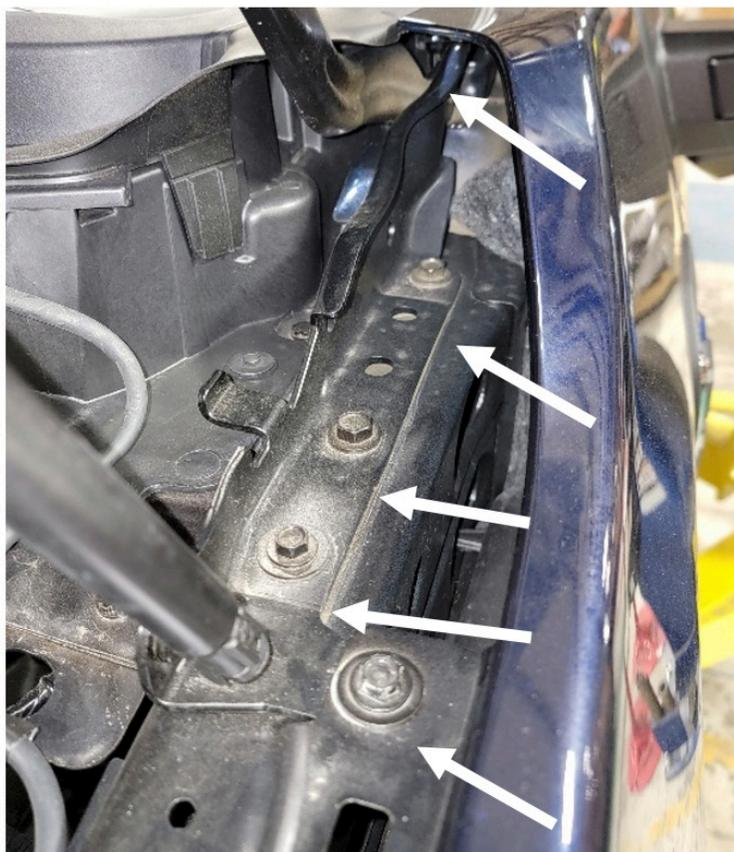

Figure 6.
5. Use a 10mm and 13mm socket wrench to remove the five (5) bolts holding the hood hinge assembly to the truck. Remove the gas strut from the OE hood hinge assembly for later use. Figure 6.